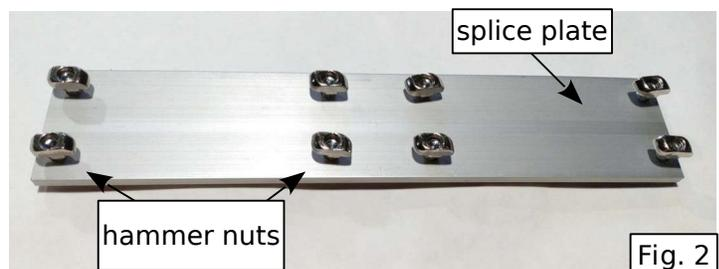

Fig. 2
2. Insert eight M6 x 12 button head socket screws into the holes of each splice plate and thread the shoulder side of a hammer nut on the end of each screw approximately one turn. Align the hammer nuts lengthwise (Fig. 2).